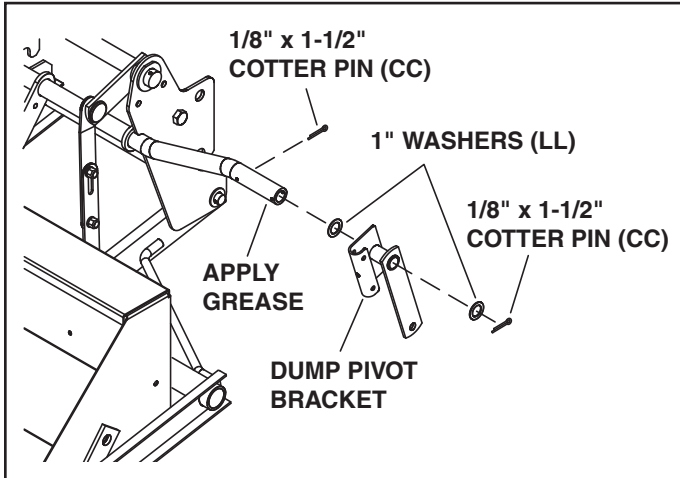

FIGURE 8
STEP 9: INSTALL DUMP PIVOT BRACKET (SEE FIGURE 8)
- Install a 1/8" x 1-1/2" cotter pin (CC) to the inside hole in the shaft shown in figure 8, and then install a 1" washer (LL) onto the shaft. Apply grease to the end of the shaft and install the dump pivot bracket assembly onto the shaft. Install a 1" washer (LL) onto the shaft and secure it using a 1/8" x 1-1/2" cotter pin (CC).